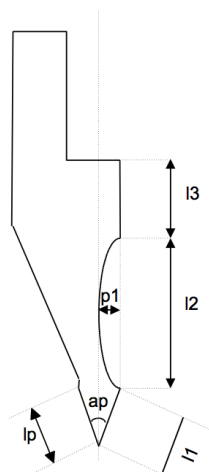

Figure 7) Example of punch draw
- Press **[ENTER]**: the next section will be drawn in automatic mode. The section to which the data refer will be marked, the cursor will move to Field 1 where the section length can be entered. The punch drawing will form by continuing to alternatively enter the lengths and angles. The more the entered measurements and angles correspond to reality, the more the drawing will be correct. Figure 7 Example of a punch to be drawn.